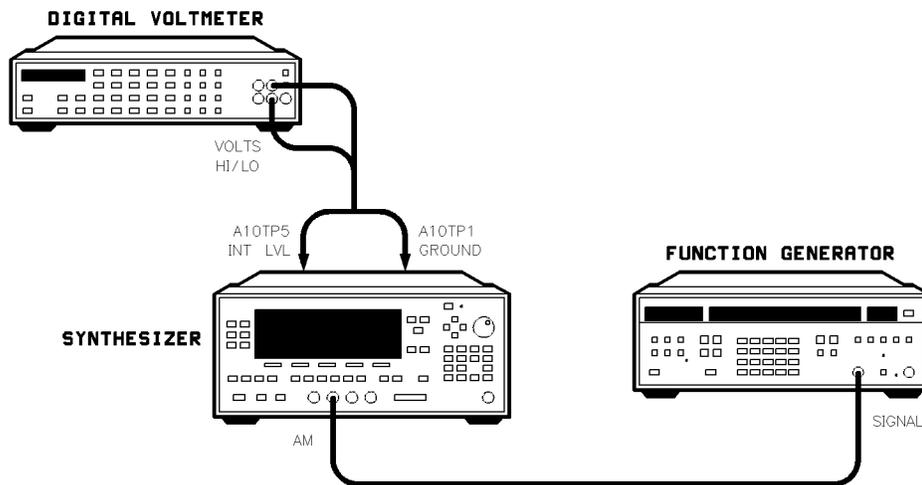

Figure 3-30. AM Delay Adjustment Setup
1. Preset the instruments shown in Figure 3-30 and let them warm up for at least one hour.
3. Connect the equipment as shown in Figure 3-30.